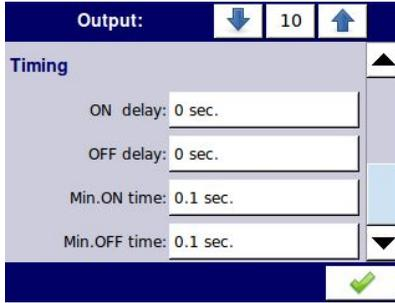

Fig. 7.84. Timing settings for different modes
**Timing** parameter block (see Fig. 7.84)